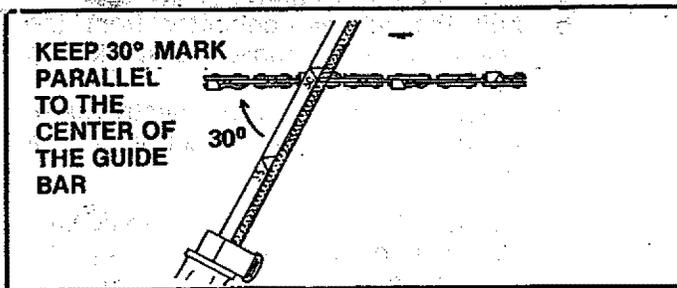

Figure 37
- Hold the file holder level with the 30° guide mark parallel to the center line of the bar. Figure 37.